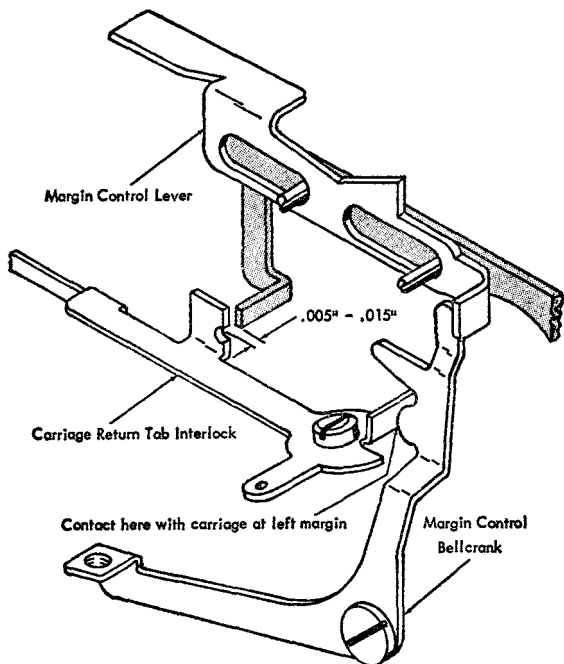

Figure 30. Carriage Return Tab Interlock Adjustment
B. With the carriage at the left margin form the interlock so it clears the tab-lever lug by $.005''$ to $.015''$ when the left-hand lug of the interlock contacts the margin-control bellcrank (Figure 30).